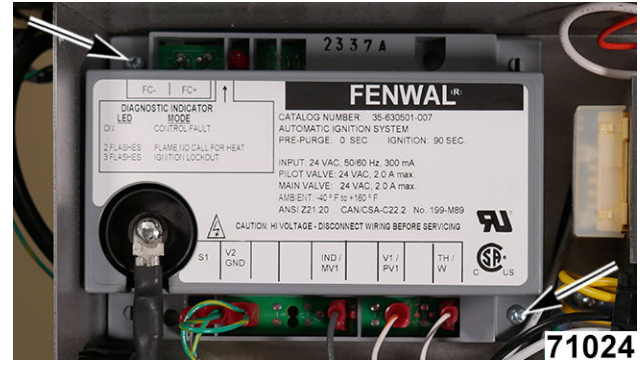

Fig. 79
4. Remove module mounting screws (Fig. 79).